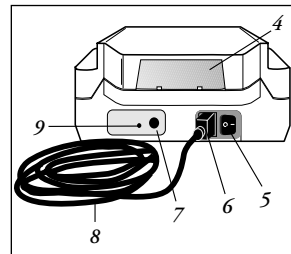

Figure 2
- Insert the appropriate power cord into the AC power connector (**Figure 2**).